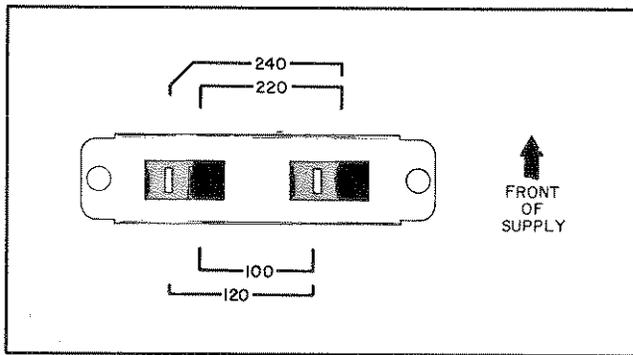

Figure 3-2. Line Voltage Selector (Set for 120 Vac)
Before applying power to the supply, make certain that its line voltage selector switch (S3) is set for the line voltage to be used. This switch is mounted on the circuit board behind the voltmeter and is visible through the perforations in the top cover. The positions of the two white marks on the switch indicate the switch setting (see Figure 3-2). If the switch setting does not correspond to the intended power source, proceed to paragraph 3-4 before applying power.
1. After making certain that the line cord is disconnected from a source of power, remove the top cover from the supply and set the two sections of the line voltage selector switch for the desired line voltage (see Figure 3-2).